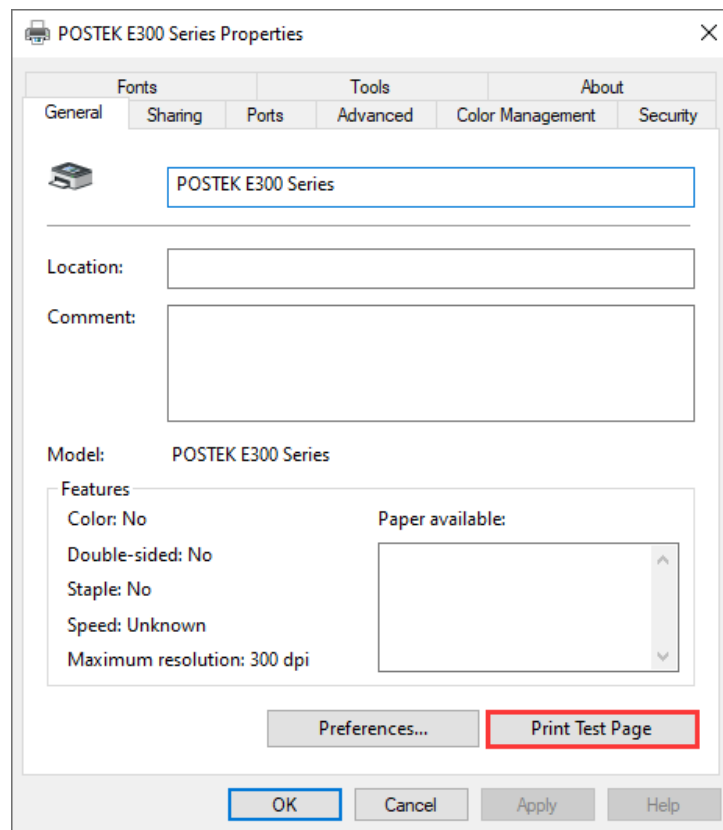

Figure 2-41 Print Test Page
11. Print a test page to see whether the printer is connected properly. As shown in Figure 2-41.